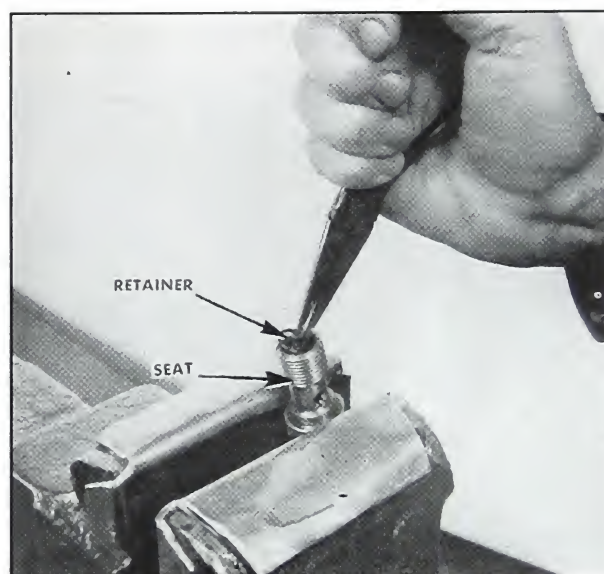

Fig. 5-277. Removing check ball retainer
2. Clamp the check ball seat in a copper jawed vise and remove the retainer ring. **Fig. 5-277.** Inspect the check ball and seat.